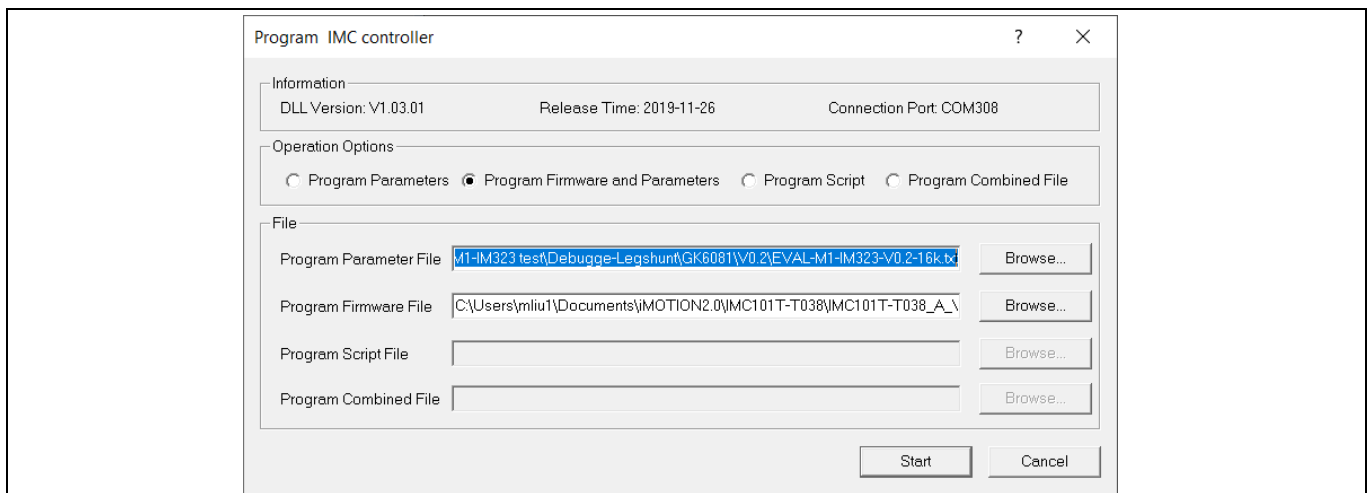

Figure 9 MCEDesigner’s program page
- b) Click **Tools > Programmer** and select Program Firmware and Parameters, as shown in Figure 9.